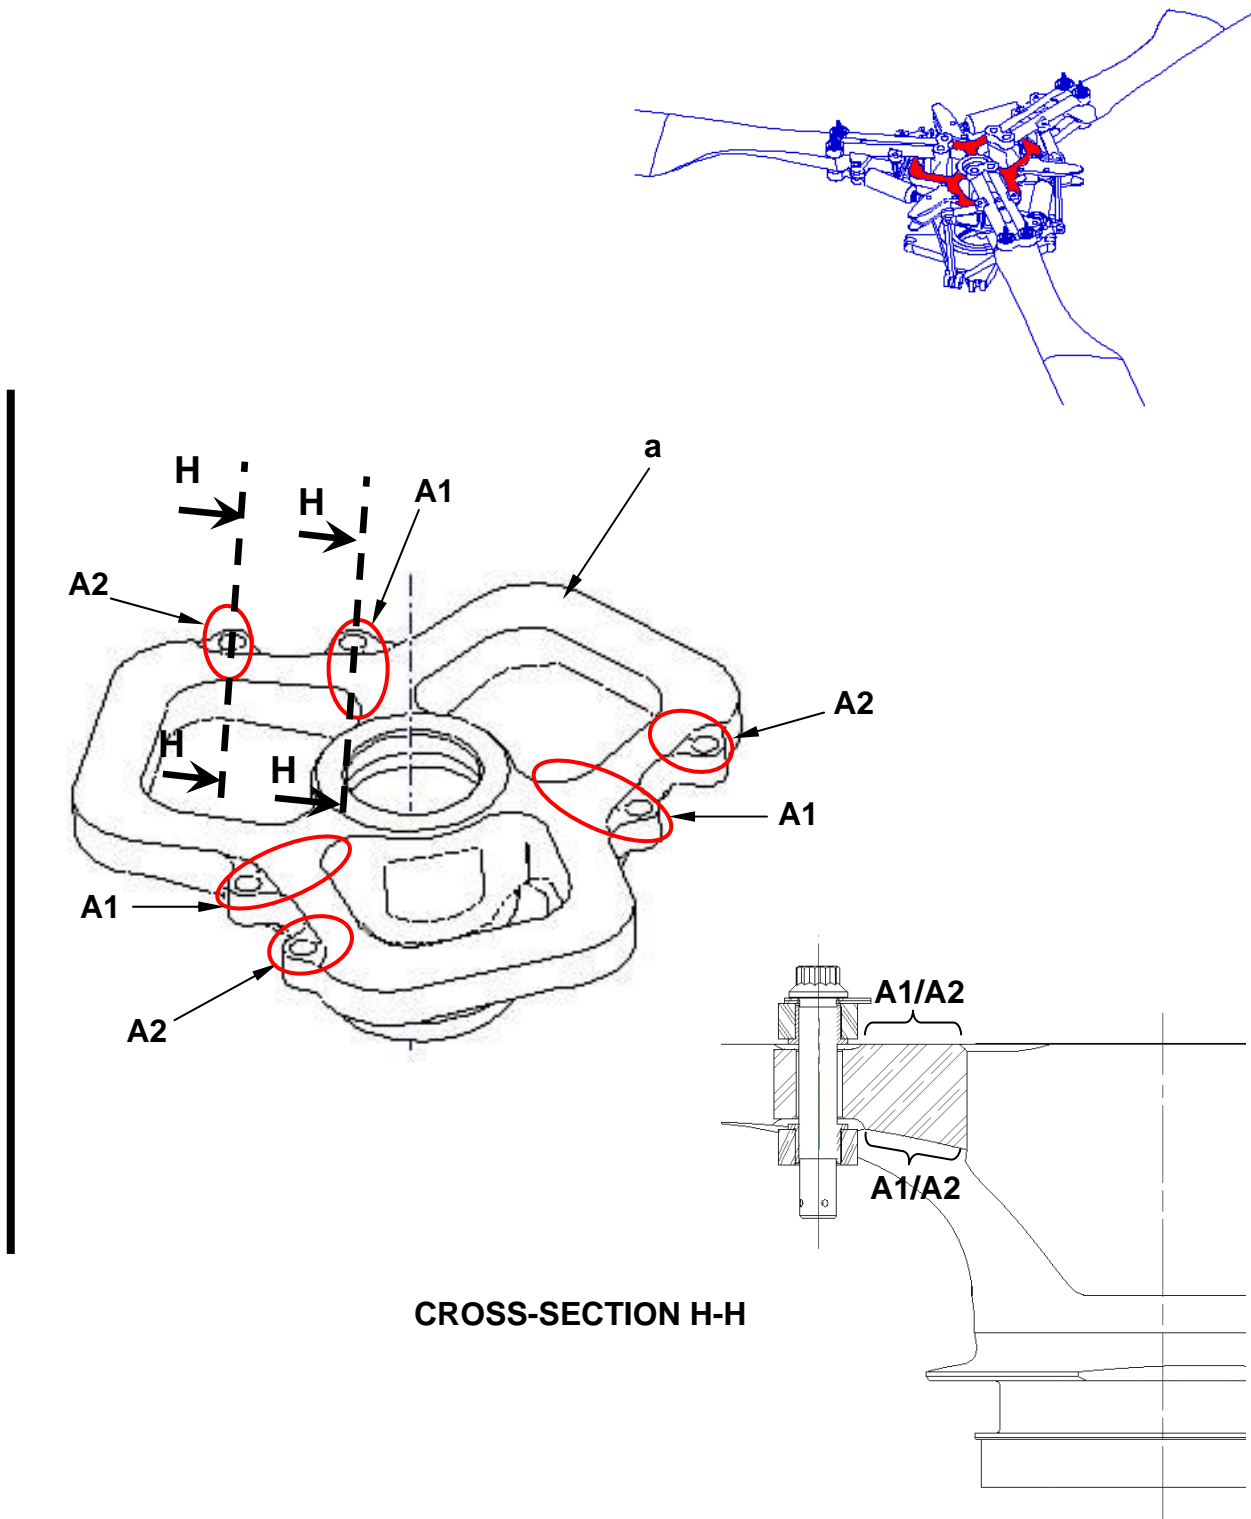

Figure 1: Visual check of the rotor hub
As per Figure 1:
- 3 - If local deterioration is found, leading you to suppose that there could be a crack (scoring, paint spalling, etc.): (as per Figures 1 and 2):